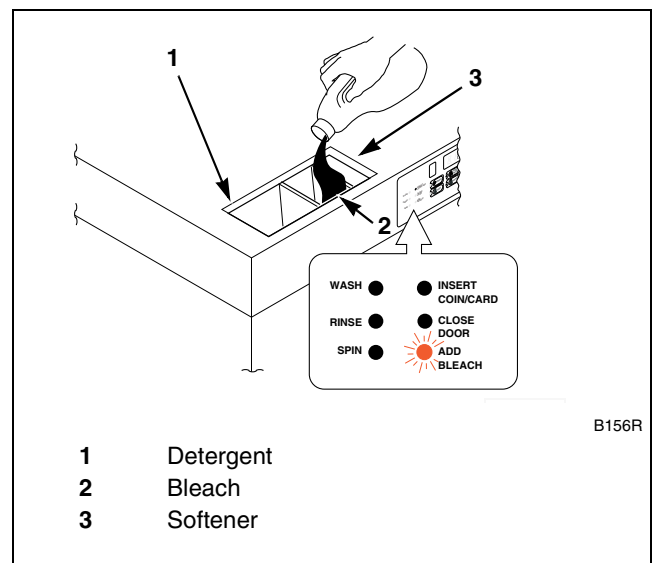

Figure 15
10. Add bleach to container 2 when ADD BLEACH light is lit. Refer to *Figure 15*.